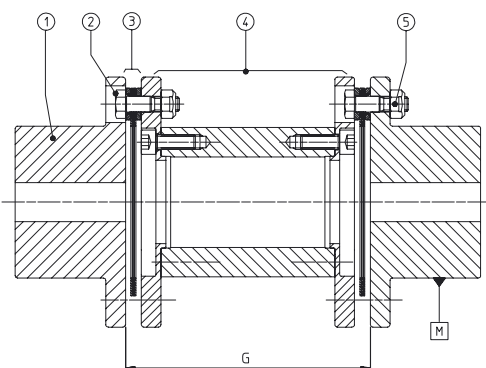

FIG. 1
- 4.1.2 Position the machines to be connected and check distance G between the hubs (fig. 1). See tabulation or approved drawing for distance G following type of coupling. In case of doubt, please consult us.